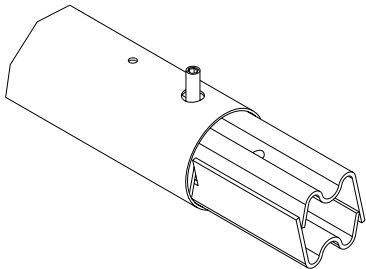

FIGURE 4
1. Loosely tighten set screw so that pieces will still move freely. See Figure 4.